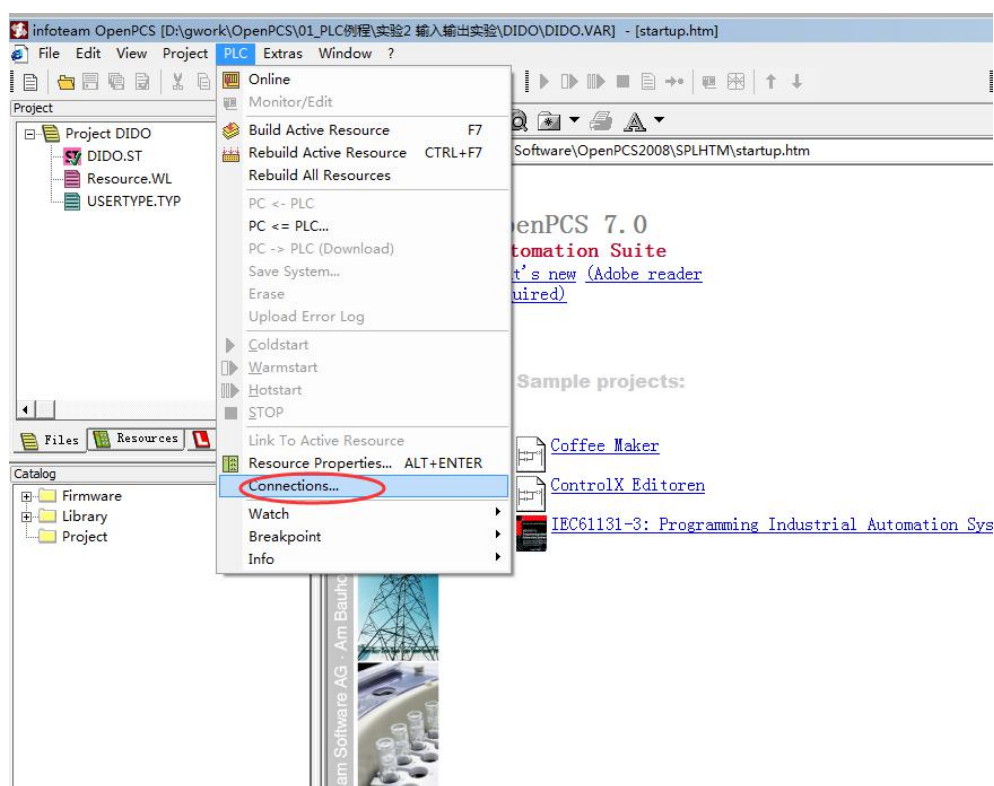

Figure 5.4 Debug connection
1. Click “PLC”, then select “Connections..”, as shown in Figure 5.4.